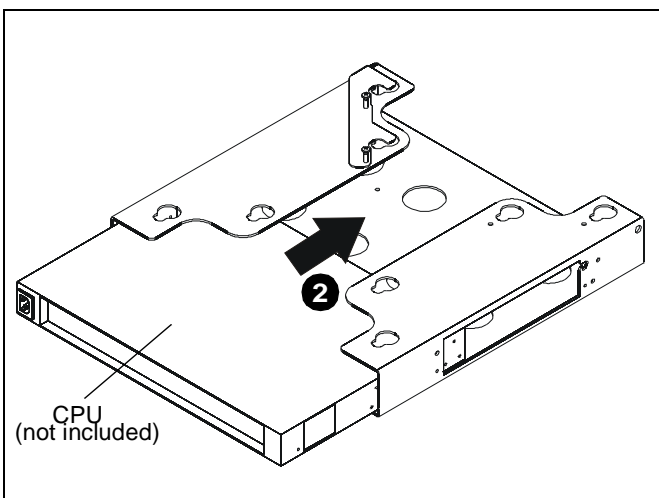

Figure 2
2. Slide CPU (not included) into CPU holder (A). (See Figure 2)